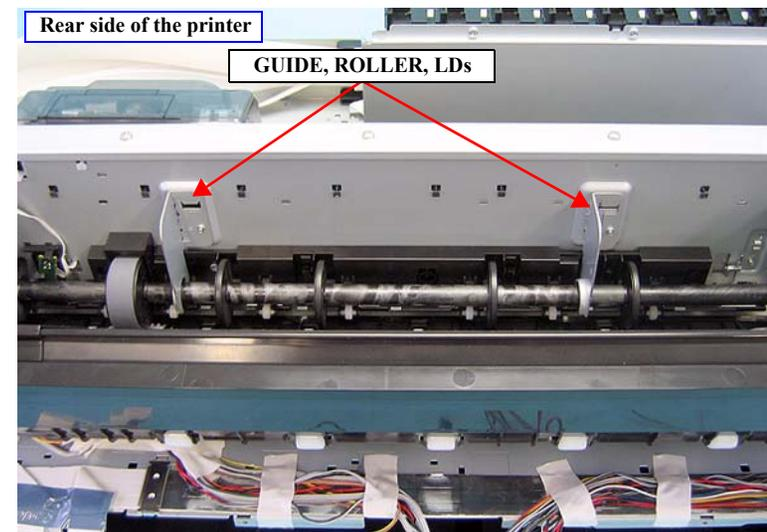

Figure 4-148. Removing the GUIDE, ROLLER, LDs
4. Lift up the two GUIDE, ROLLER, LDs on the rear side of the main unit to disengage the hook and the tab, and remove the GUIDE, ROLLER, LDs. See Figure 4-148.